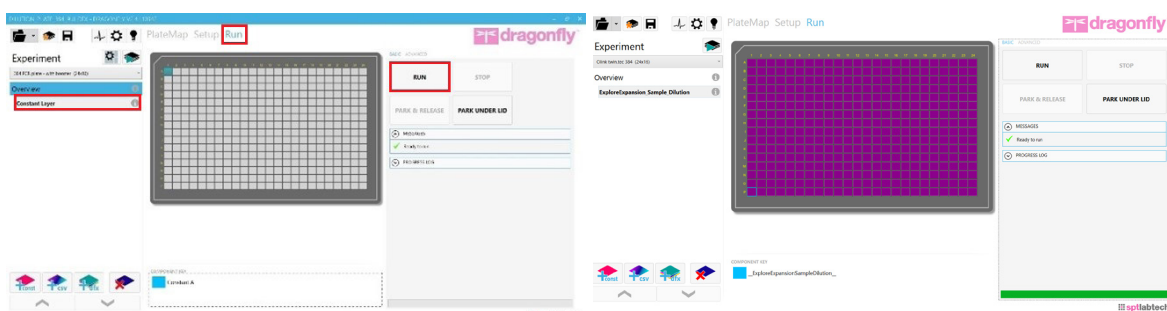

Figure 23. Run tab and Run button (left). Filled Plate (right).
- Select the Run tab in the Constant layer view of the software (Figure 23), then click **RUN** to start the program.